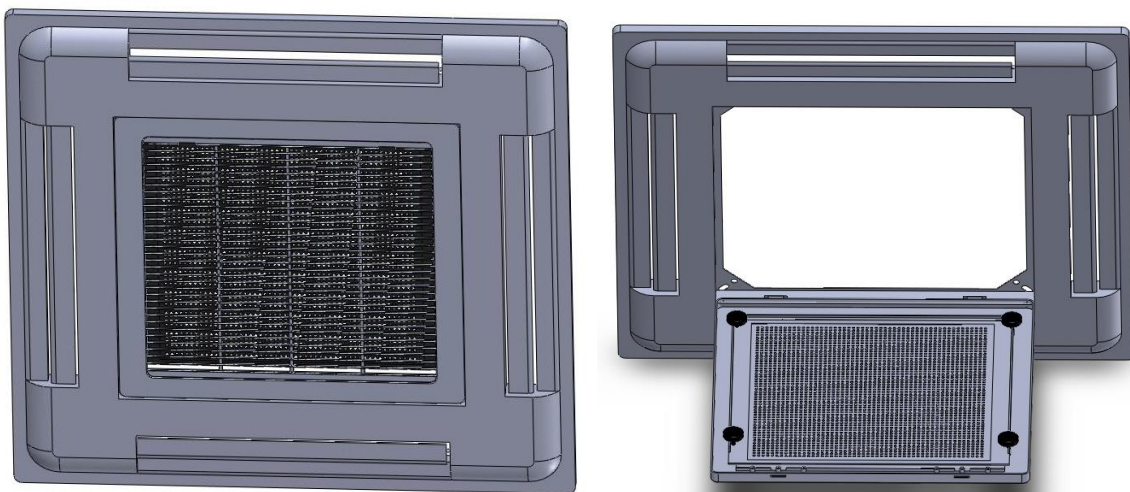

Figure 28
- 2) The air filter is made of acrylic fiber and is washable in water. To remove filter simply open the intake grille by releasing the two catches. See Figure 28 for the section filter removal.